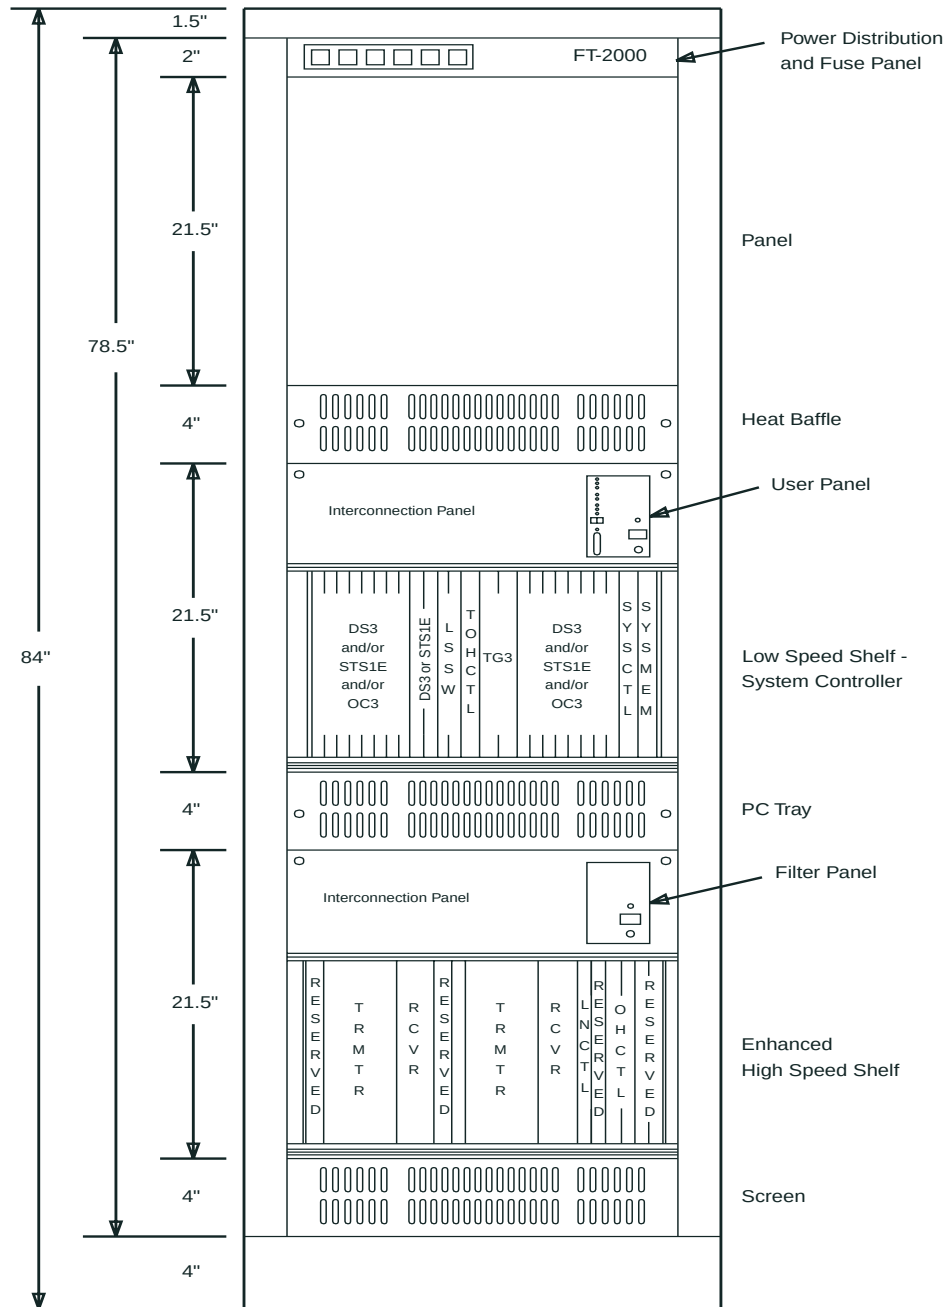

Figure 3-1. FT-2000 OC-48 Add/Drop-Rings Terminal for two-Fiber Rings (E-Bay)
- **FT-2000 OC-48 Add/Drop-Rings Terminal for two-Fiber Rings:** The FT-2000 OC-48 Add/Drop-Rings Terminal for two-Fiber Rings (Figure 3-1) consists of the FT-2000 OC-48 Enhanced Lightwave Terminating Bay (or the J68974A FT-2000 OC-48 Lightwave Terminating Bay) along with the software that was ordered.